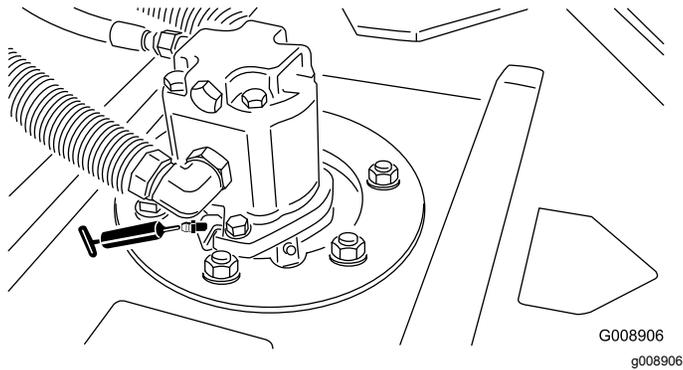

Figure 39
- 2 (per cutting unit) cutting unit spindle-shaft bearings (Figure 39)